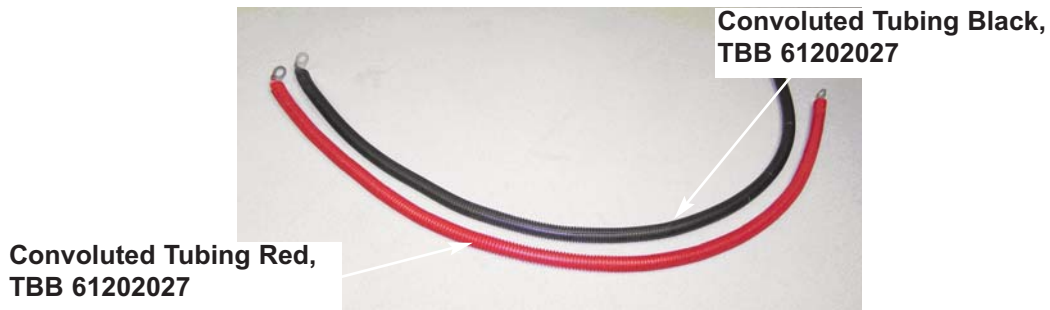

Figure 11
8. Install Black Convoluted Tubing, TBB 61202027, on black cable and Red Convoluted Tubing, TBB 61201964, on the red cable. Each cable requires approximately 39 inches of convoluted tubing. **Figure 11**